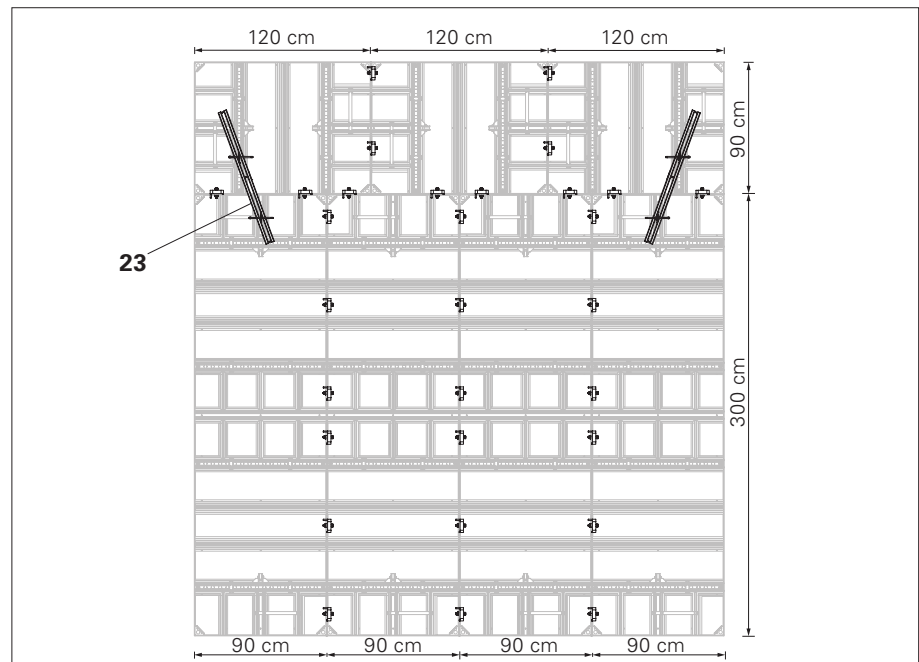

Fig. C6.02
Shown Height = 390 cm (Fig. C6.02)
When pre-assembly is not required for height extension, then the pattern can be followed as shown in Fig. C6.02 for vertical alignment using Compensation Waler HSA 95 (23).